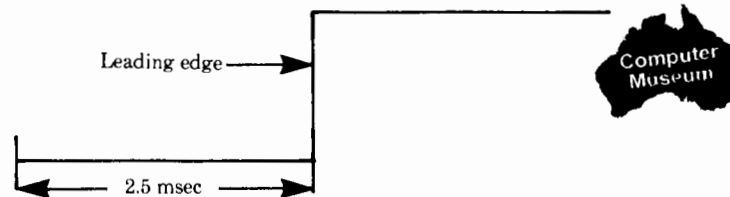

Figure 6. Velocity Amplitude Adjustment
7. With the corebar moving, adjust the TRIGGER LEVEL on the oscilloscope for a stable trace as shown in figure 6.